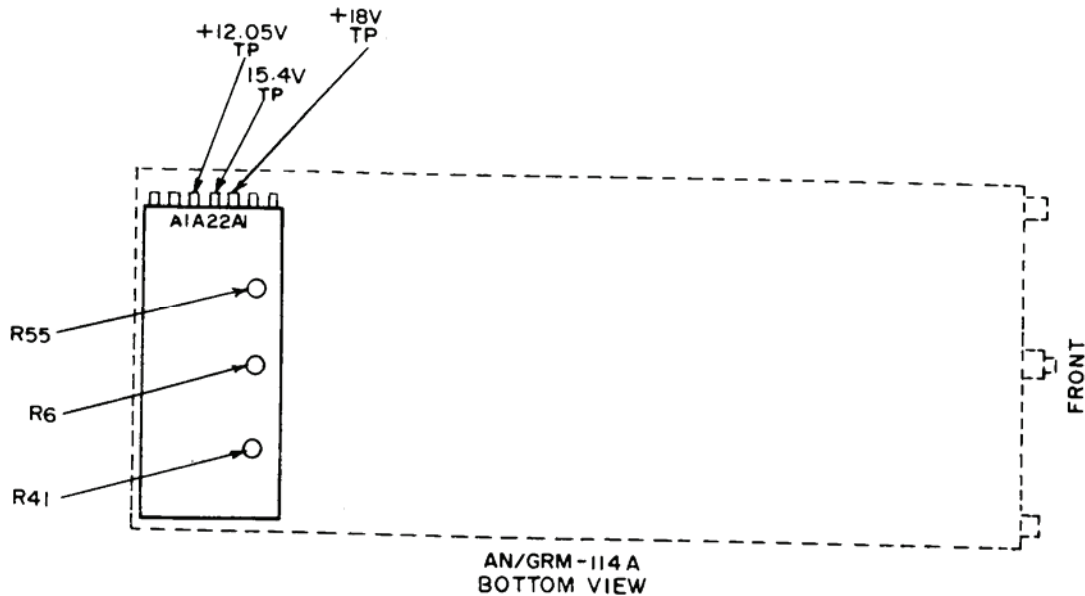

Figure 9. AN/GRM-114A - bottom view.
- (1) Set **PWR-OFF-BATT** switch to **OFF** and remove battery from TI..
- (2) Connect decade resistor across battery terminals.
- (3) Set decade resistor for 150  $\Omega$ .
- (4) Connect multimeter to +18V TP (fig. 9) and chassis ground.
- (5) Set **PWR-OFF-BATT** switch to **PWR**. If multimeter does not indicate between 17.6 and 18.4 V dc, perform **b** (1) below.
(6) Move multimeter positive lead to +15.4 V TP (fig. 9). If multimeter does not indicate between 15.55 and 15.25 V dc, perform **b** (2) below.
(7) Move multimeter positive lead to +12.05V TP (fig. 9). If multimeter does not indicate between 11.95 and 12.15 V dc, perform **b** (3) below.
(8) Set **PWR-OFF-BATT** switch to **OFF**, unplug from power and remove decade resistor from battery terminals.
(9) Connect dc power supply and multimeter across battery terminals.
(10) Set power supply voltage for a 12 V reading on multimeter.
(11) Set **PWR-OFF-BATT** switch to **BATT** and slowly reduce dc power supply voltage until TI just shuts off. If multimeter does not read between 10.9 and 11.1 V dc, perform **b** (4) below.
(1) Adjust A1A22A1R41 (fig. 9) for an 18 V indication on multimeter (R).
(2) Adjust A1A22A1R6 (fig. 9) for a 15.4 V indication on multimeter (R).
(3) Adjust A1A22A1R55 (fig. 9) for a 12.05 V indication on multimeter (R).